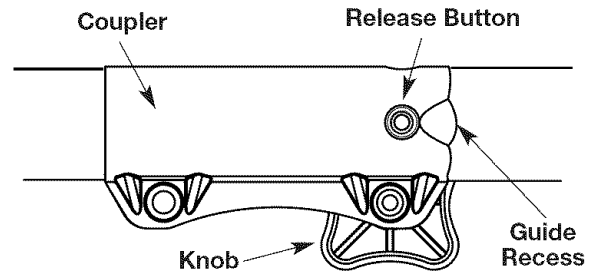

Fig. 6
1. Turn the knob counterclockwise to loosen (Fig. 6).
2. Press and hold the release button (Fig. 6).